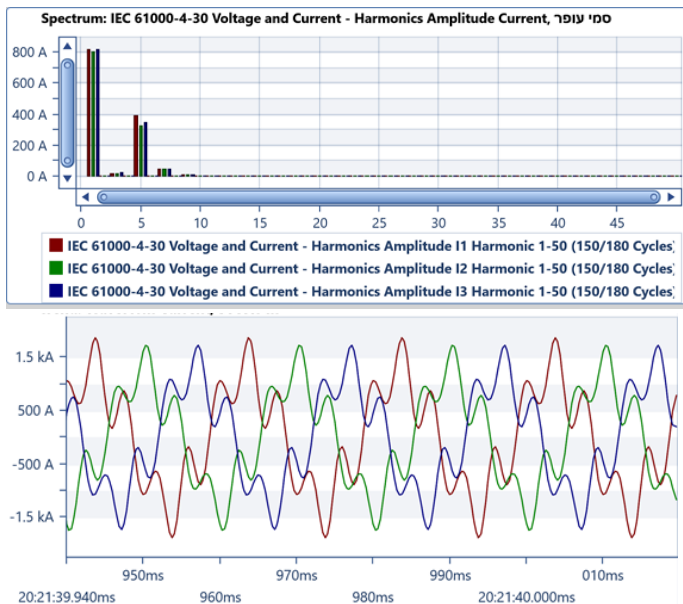

Figure 1 - Harmonic spectrum and waveform without filter
The Sami Ofer Stadium in Haifa, which opened in 2014, is used for soccer matches of the Israeli national team, the Israeli League, and also for other events/cultural performances. A catwalk built along its stadium roof (largest of its type in Israel) has 200 lamps for field illumination. The fixtures are metal halide (MH) type, each consisting of a capacitor installed in its ballast to improve the power factor and reduce the operating current. The bulbs are high-intensity discharge (HID) type, which produce current harmonics, which were being amplified by the capacitors. The dominant harmonic created by these lamps is the fifth (250 Hz), and the total harmonic distortion in the current (THDi) exceeds 50%, resulting in frequent damage and unreliable operation. Figure 1 shows the waveform and spectrum of harmonics.